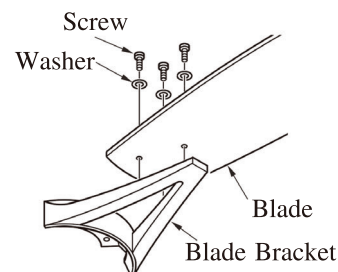

FIG.10
1. Install the screw, washer, blade and blade bracket together & tighten them securely. (See fig.10)